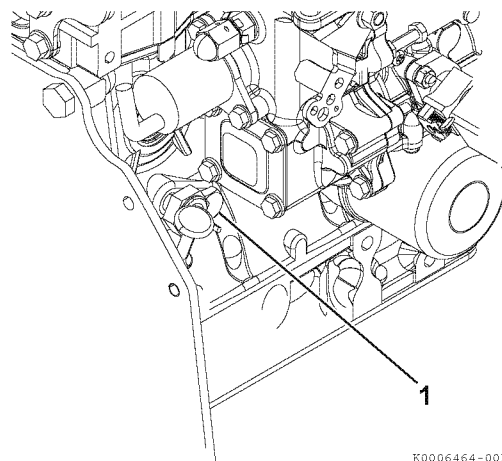

Figure 5-16
4. Drain the coolant from the engine block. Remove the coolant drain plug (Figure 5-16, (1)) from the engine block.